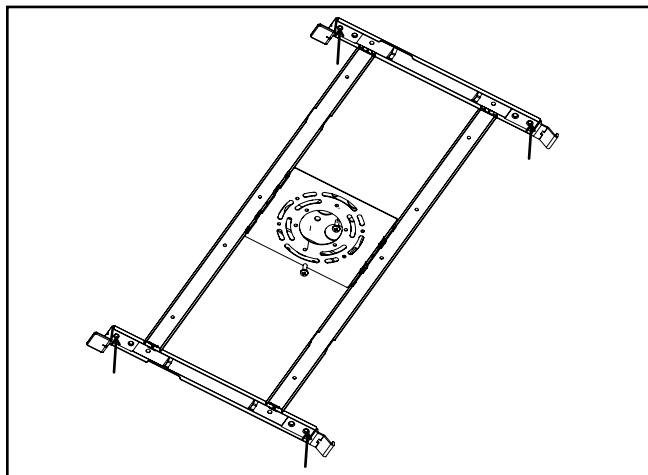

Figure 2.
- Assemble toggle bolts to mounting bracket at locations shown in Figure 2. Insert toggle bolts into holes, then secure bracket to ceiling by tightening bolts. Replace junction box screws.